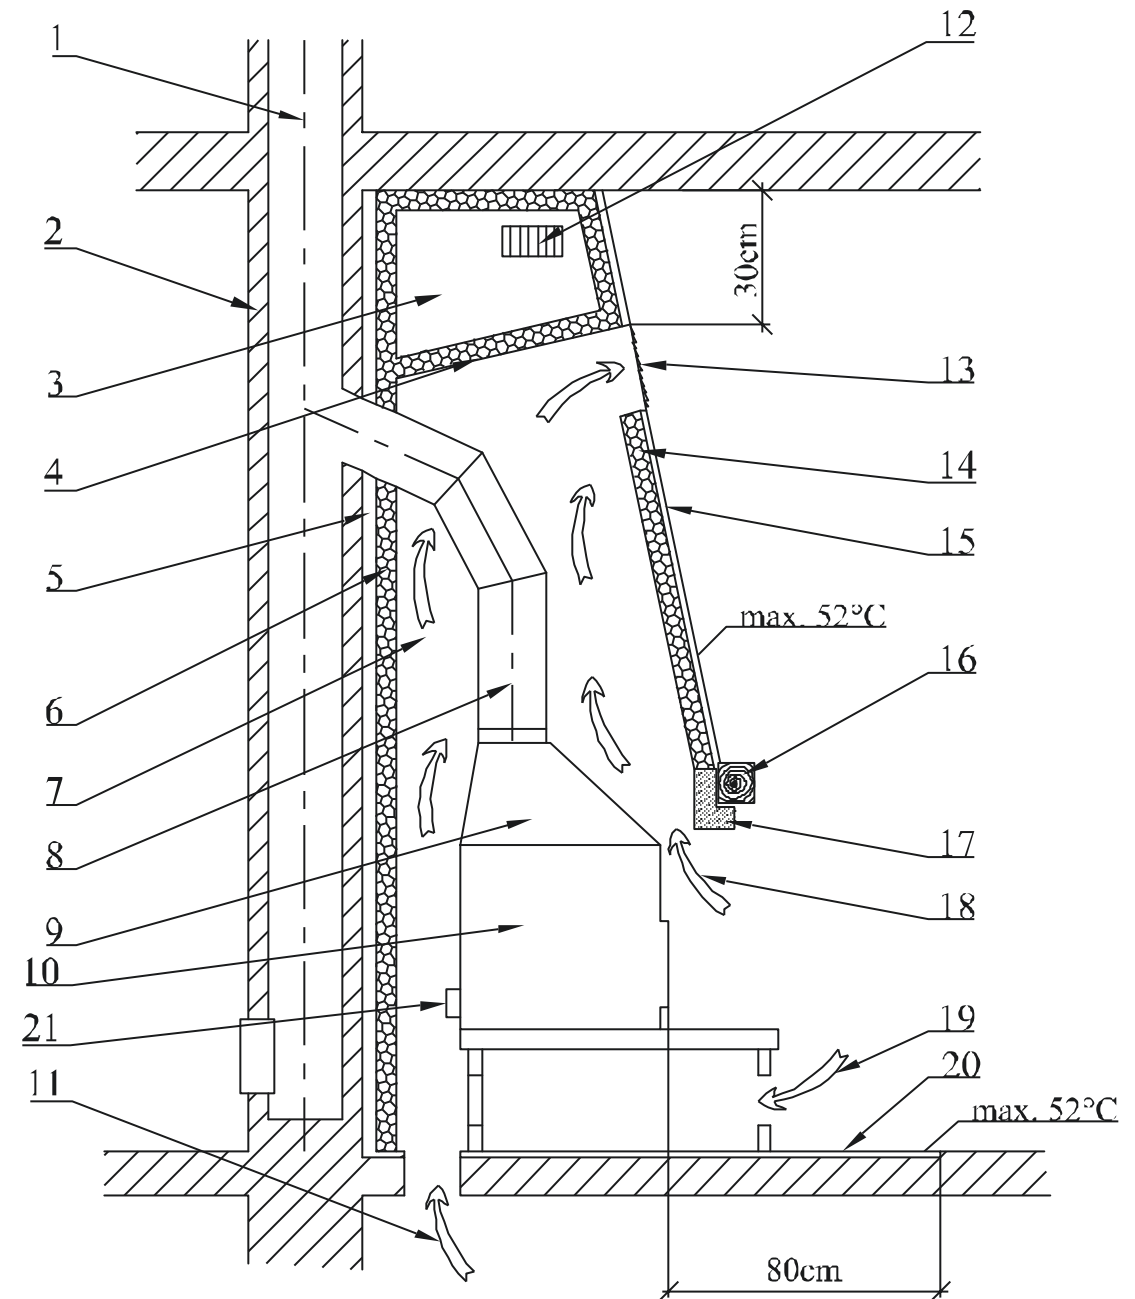

Figure 2
The safe distance from door case covers and similarly located building constructions from flammable materials and from pipeline installation including its insulation is at least **20cm**. The safe distance from other flammable parts of the building construction at least **40cm** (see fig.2) according to **ČSN 06 1008/1997**. This includes building materials belonging to classes **B, C** and **D** as defined in **ČSN EN 13501-1+A1/2010** (see table no.1) The same applies for walls and especially ceilings with plaster on a flammable surface, e.g. crates, planks, etc.! When the prescribed safe distances cannot be kept, the danger of fire must be prevented through construction solutions, non-flammable applications, heat-resistant insulations or protection screens.
5. The warm conventional air outlet must be at least **30cm** below the ceiling (figure 2).
6. An inflammable ceiling construction must be present above the conventional warm air outlet. Its temperature must not exceed **50°C**. Thus, the lower ceiling must be insulated from the effects of heat coming from the fireplace by a barrier and at least one not fully closeable grated opening (figure 2) or a sufficient layer of heat insulation.